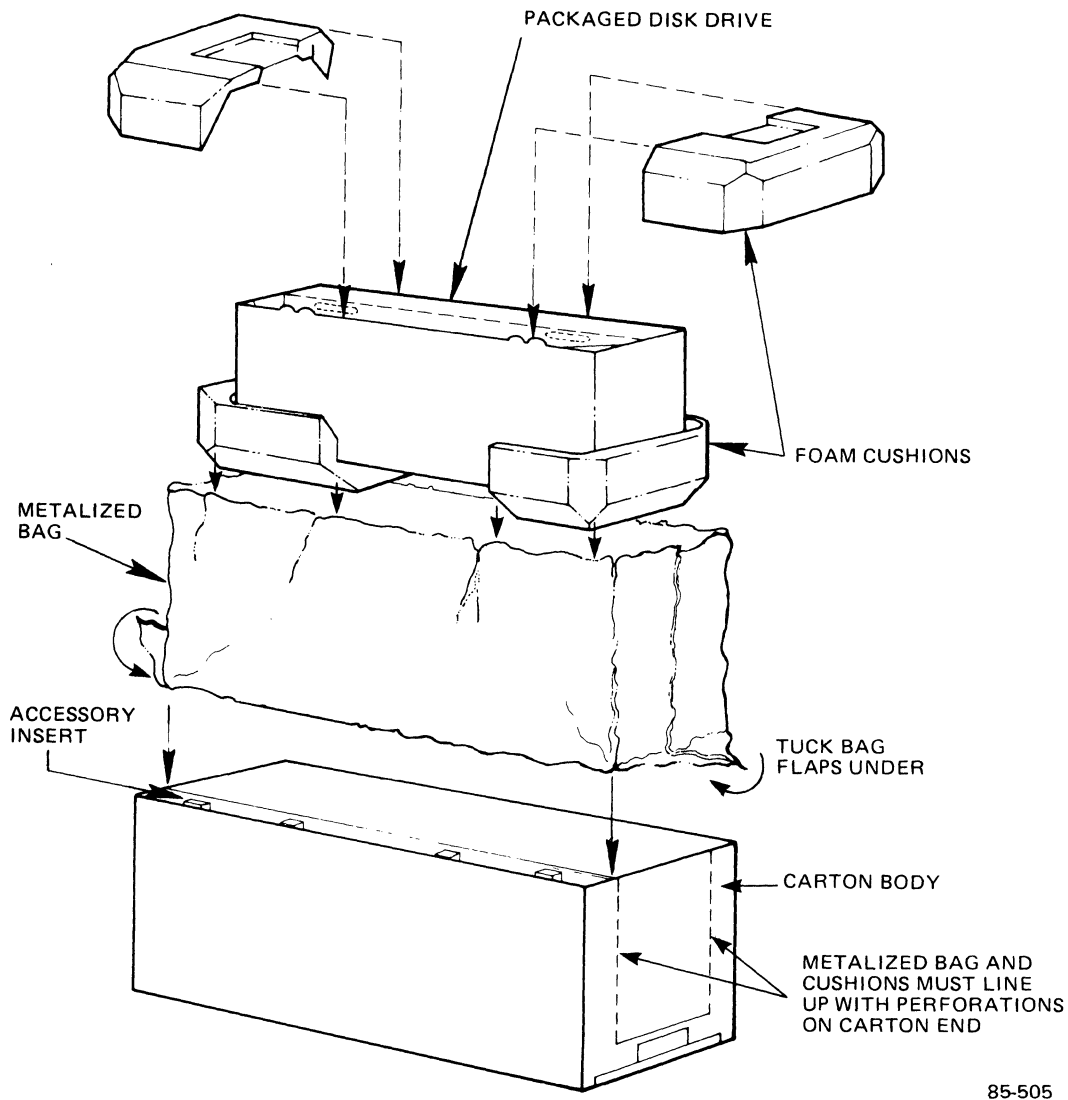

Figure 3-5. Placing the Disk Drive in the Carton
For steps 9 through 12, see Figure 3-5.
10. Place the bag into the carton, and tuck the flaps under as shown in Figure 3-5. Ensure that the bag and the cushions line up with the perforations in the carton.